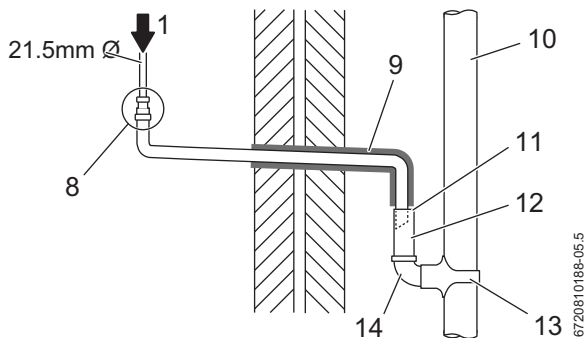

Fig. 18 Disposal into a rainwater down pipe
- Refer to figure 18 when a rain water down pipe is used to dispose of condensate.